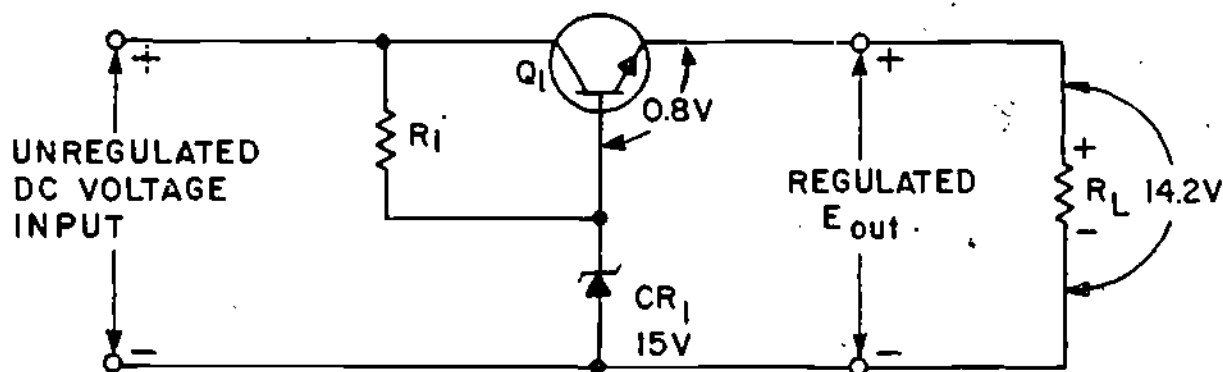

FIGURE 8
16. Figure 8 is a schematic diagram for the same series voltage regulator with one significant difference. Notice that the output voltage is shown as 14.2 volts in lieu of the desired 14.3 volts.